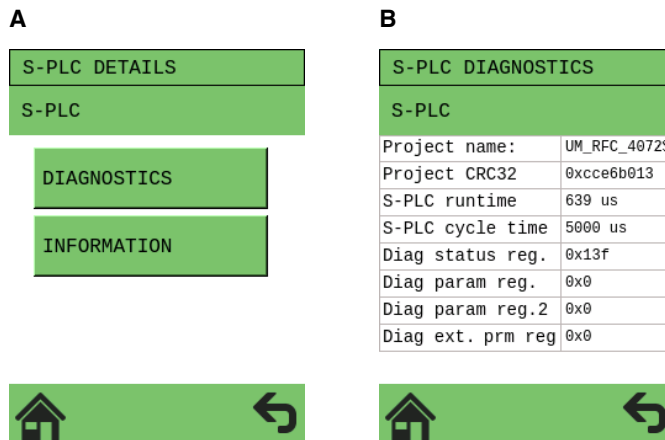

Figure 2-11 RFC 4072S display: cycle and program runtime of the iSPNS 3000 (B)
Both values, iSPNS 3000 cycle time (S-PLC cycle time) and program runtime (S-PLC runtime), can be viewed in the display of the RFC 4072S (see Figure 2-11 on page 42).
- For this, open the "S-PLC DETAILS" menu by tapping the "Safety PLC" tile (A in Figure 2-11 on page 42).